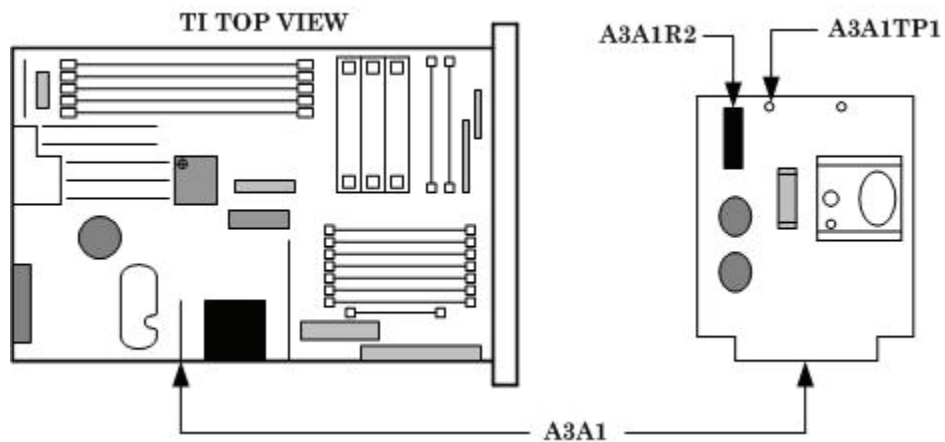

Figure 12. A3A1 card.
(1) Connect digital multimeter to A3A1TP1 and chassis (fig. 12). If digital multimeter does not indicate between +21.98 and +22.02 V dc, perform **b** (1) below.
(1) Adjust A3A1R2 (fig. 12) for an indication of +22.00 V dc on digital multimeter (R).